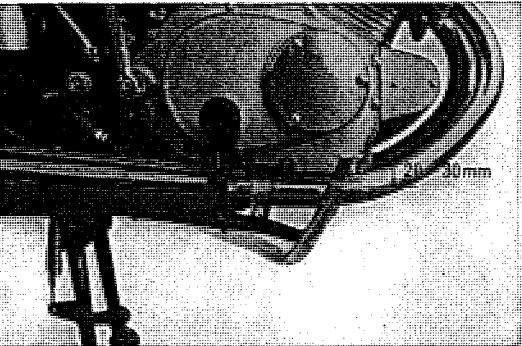

Fig. 6.36 Play of rear brake pedal
- b. The play of the rear brake pedal is the same as that of front lever. (Refer to Fig. 6.36)